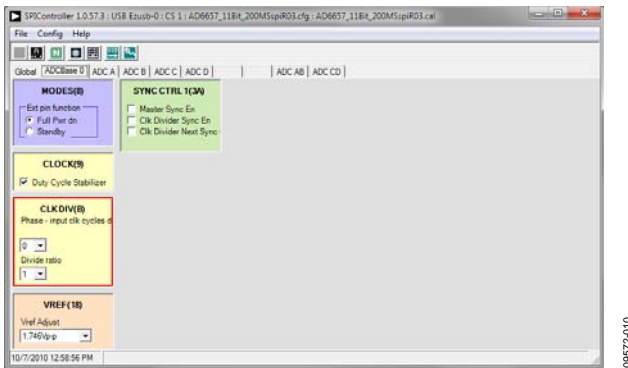
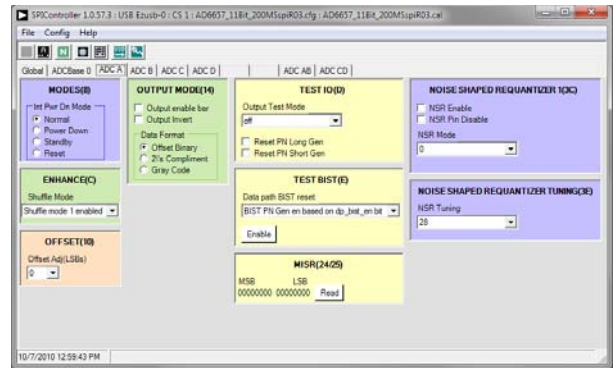

Figure 10. SPIController, CLK DIV(B) Box
Figure 11. SPIController, Example ADC A Page
3. In the **ADCBase 0** tab of the **SPIController** window, find the **CLK DIV(B)** box (see Figure 10). If using the clock divider, use the drop-down box to select the correct clock divide ratio, if necessary. See the appropriate part data sheet; the AN-878 Application Note, *High Speed ADC SPI Control Software*; and the AN-877 Application Note, *Interfacing to High Speed ADCs via SPI*, for additional information.
4. Note that other settings can be changed on the **ADCBase 0** page (see Figure 10) and the **ADC A** and **ADC B** pages (see Figure 11) to set up the part in the desired mode (**ADC C** and **ADC D** can also be changed if using the AD6657). The **ADCBase 0** page settings affect the entire part, whereas the settings on the **ADC A** and **ADC B** (as well as **ADC C** and **ADC D**) pages affect the selected channel only. See the appropriate part data sheet; the AN-878 Application Note, *High Speed ADC SPI Control Software*; and the AN-877 Application Note, *Interfacing to High Speed ADCs via SPI*, for additional information on the available settings.